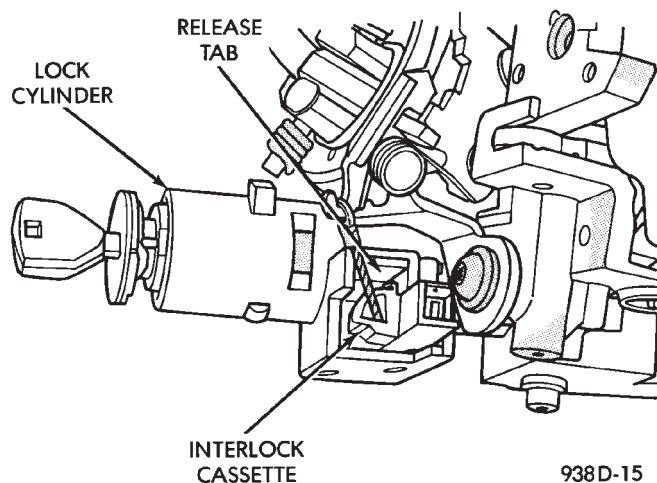

Fig. 10 Ignition Interlock Cassette—Column Shift
The interlock cassette slides into the housing behind the lock cylinder (Fig. 10). The cable at the rear of the cassette attaches to a locking arm on the shifter mechanism. **The column shift interlock system is only adjusted after installing a new cassette. It can't be adjusted more than once. If the system operates incorrectly, install and adjust a new interlock cassette.**
- (1) Depress the tab on the top of the cassette (Fig. 10).
- (2) Slide the interlock cassette out of the housing.
- (3) Remove the cable from the locking arm on the shifter mechanism.